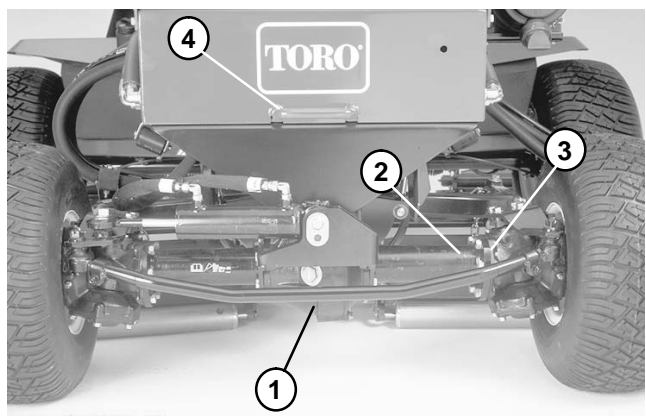

Figure 3
1. The preferred method of lifting the rear end of the machine is (Fig. 3):
- B. On 4WD models, place jack securely under the differential casing (Fig. 3).